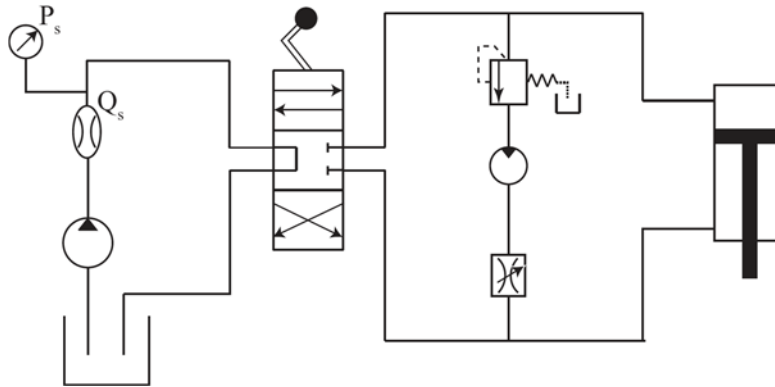

Fig 1: Sequence Valve Circuit
- Study the schematic in Fig. 1 and predict what the circuit will do.
- Construct the sequence valve circuit in Fig. 1 with the needle valve partially open. If we are interested in measuring the speed of the hydraulic motor, where should we place a flow meter?